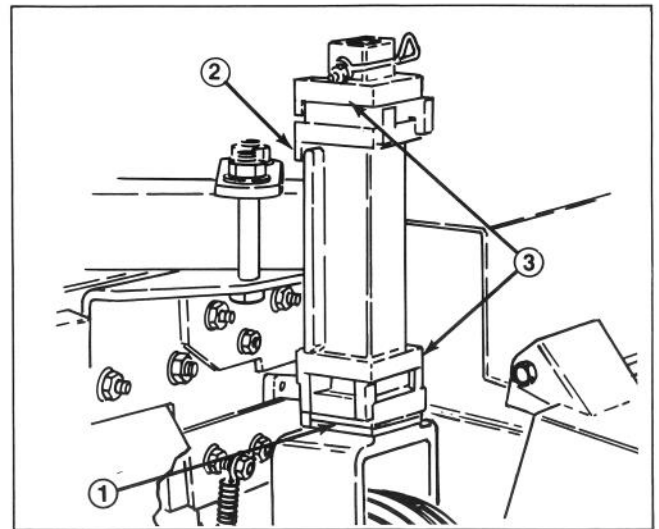
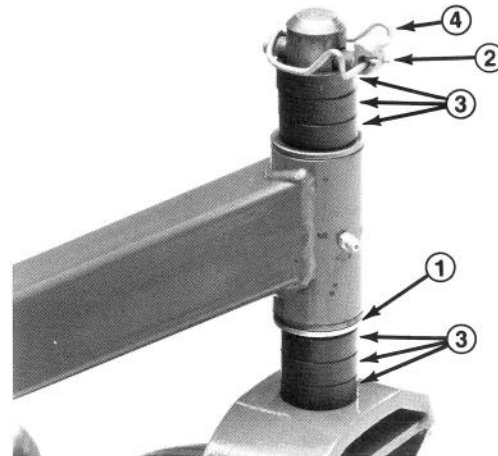

Figure 2A
Figure 2B
2. Slide spacers off the caster fork shafts. Leave the two full square washers (Fig. 2A) on the rear caster fork shafts.
3. Slide spacers onto caster shafts to get desired height-of-cut: refer to Height-of-Cut Chart, page 13. With thrust washer on top of spacer push round caster shafts (Fig. 2B) through front caster arm. Push square caster shafts (Fig. 2A) through rear caster arm. Install remaining spacers onto caster shafts and install lynch pins to secure assembly. Always retain the same number of spacers on each caster when adjusting height-of-cut.
NOTE: On front caster shafts, insert lynch pin in front side of shaft with caster wheels positioned as if deck were traveling in forward direction (Fig. 2B). Inserted from the front the wire loop is less likely to be forced up during operation and the pin lost.
IMPORTANT: Thrust washer — not the spacers — must contact bottom of front carrier frame tube (Fig. 2B).